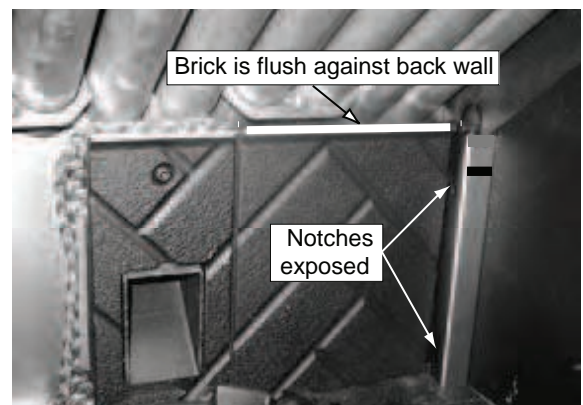

Figure 37.5
2. The brick will be flush against the back wall and notches exposed in the side bracket. **Figure 37.5**.
6. The baffle does not completely cover the top of the firebox. There is an opening on the left as shown in **Figure 37.5**.